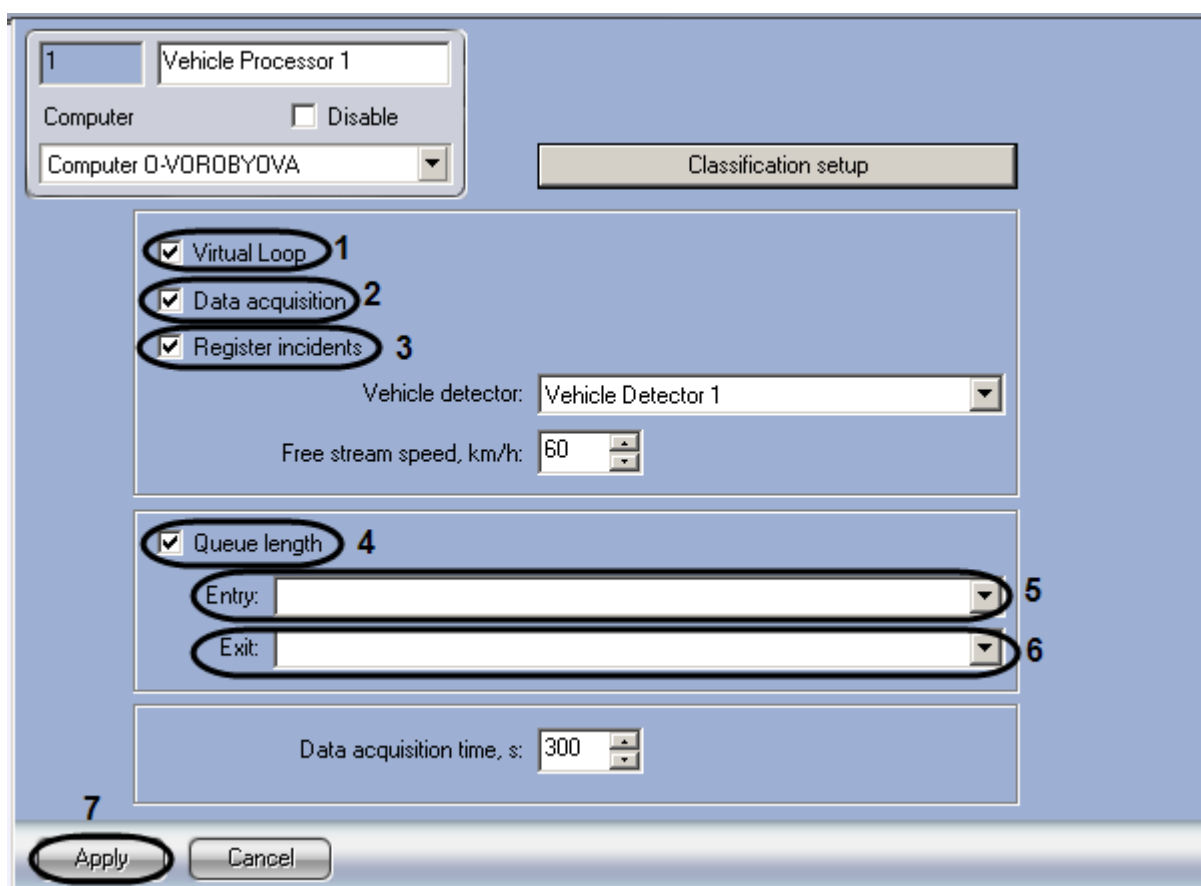

Fig. 7.7—10 Selecting the Vehicle processor operation mode
1. Go to the Vehicle processor settings panel (Fig. 7.7—10)
2. To enable the mode of imitating the virtual loop set the «Virtual loop» checkbox (Fig. 7.7—10, 1). The result of this module operation is retranslating the events of vehicles passing in and out from the detection zone, registered by Vehicle detector module. On default the events are retranslated without storing in the Vehicle processor database. To enable storing the events to the database, one should perform step 3.
3. To enable the mode of gathering and storing vehicles information to the Vehicle processor database set the «Data acquisition» checkbox (Fig. 7.7—10, 2)
4. To enable the fixation mode and storing the incidents in the vehicle to the Vehicle processor database set the «Incidents register» checkbox (Fig. 7.7—10, 3)